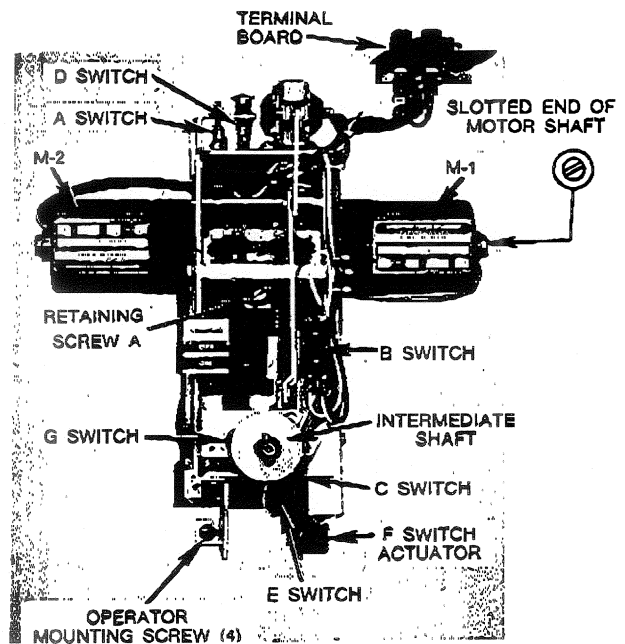

Fig. 2. Breaker with outer cover removed.
4. On electrically operated devices, loosen the mid-cover retaining screw (A), Fig. 2, and lift off the mid-cover.
- d. Retighten retaining screw (A), Fig. 2.